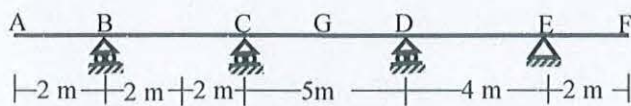

Figure 7
- a. Draw the qualitative influence lines of the beam shown in **Figure 7** for (I) Bending moments M_C , M_G [G is at mid-span of CD]; (II) Support reactions R_B , R_D and (III) Shear forces $V_B^{(L)}$, $V_C^{(R)}$. [6 Marks]